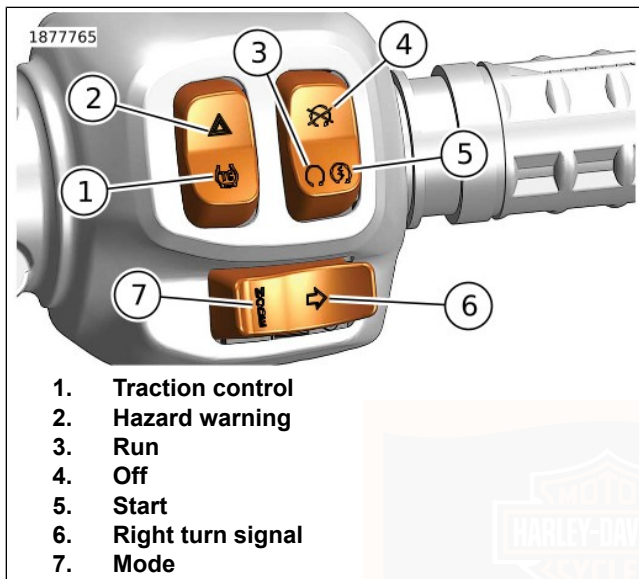

Figure 30. Right Hand Control Module (RHCM)
2. See Figure 30. Switch the OFF/RUN/START switch to the RUN (3) position.